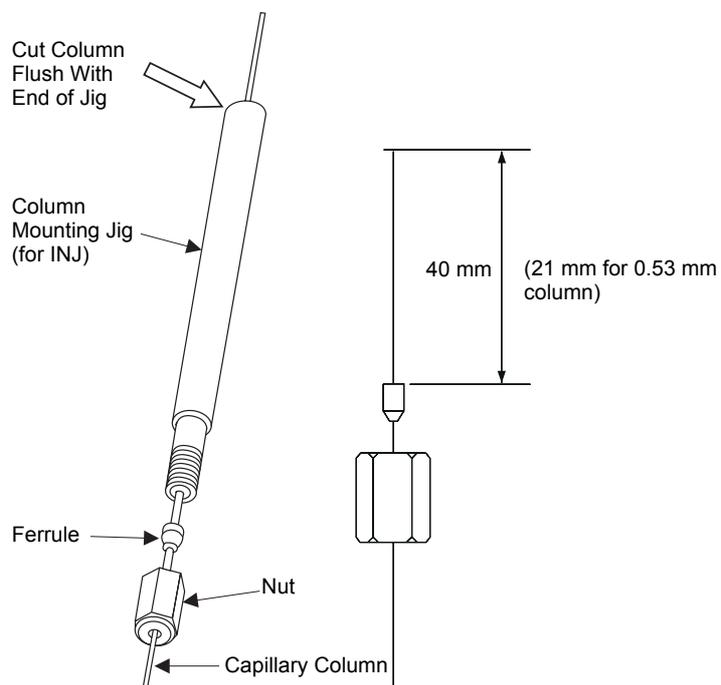

Figure 2.23 Using the Column Fitting Jig
- (1) Push the capillary column through the Vespel ferrule and nut. Refer to Figure 2.23 "Using the Column Fitting Jig".
- (2) Insert the end of the capillary column into the column fitting jig (P/N 225-11657-09), so that the capillary column protrudes about 1 cm from the end of the jig as indicated in Figure 2.23 "Using the Column Fitting Jig". Secure it by tightening the nut. Cut the protruding end of capillary column.